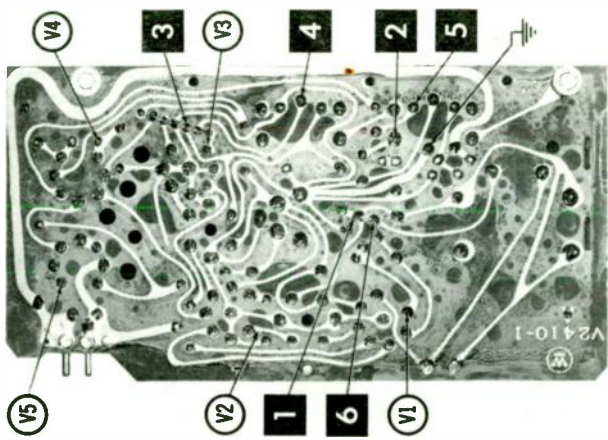

Figure 25 — View of bottom of printed board.
7. For the second method of checking the filaments, remove the "cheater" cord, and *carefully* remove the chassis from the cabinet. Put knobs, clips, screws, etc., in a box or dish so that you can find them later. It is always embarrassing to explain that you fixed the bedside radio but lost the original knobs, and the substitutes don't match the cabinet! The printed board looks distressingly complex, but fortunately help is at hand in the form of the printed-board illustration in Figure 25. Notice that the tubes are identified by the arrow which points to pin 1. You can determine the other pins simply by counting clockwise around the